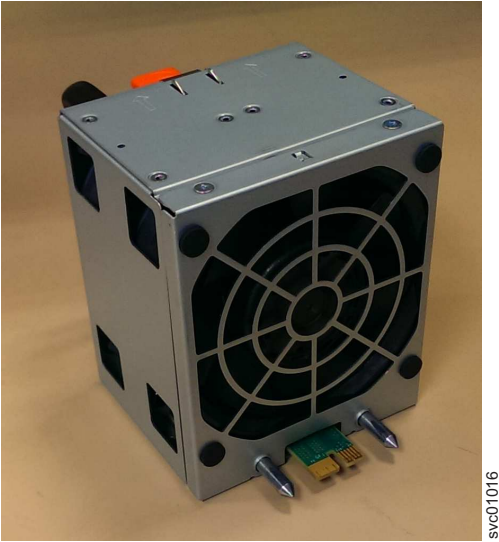

Figure 98. Fan module orientation
1. Hold the fan module with the release tab on top and the connector pin on the bottom, as shown in Figure 98 on page 101.